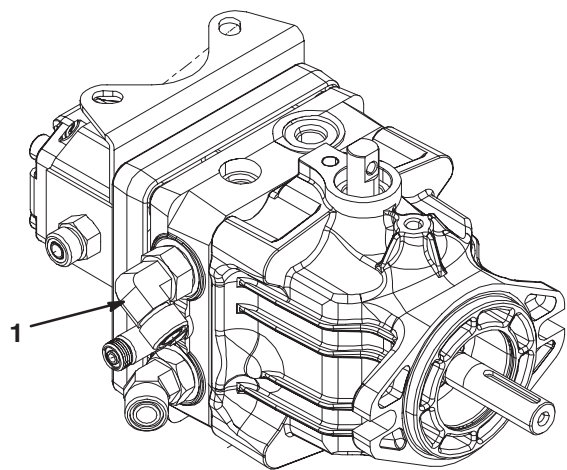

Figure 9
- Connect all lines **with the exception** of the top traction port (Fig. 9).